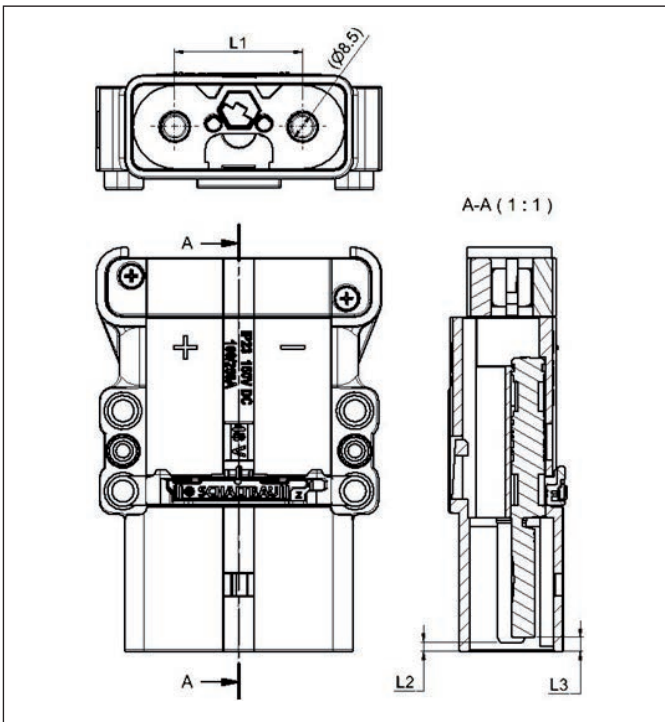
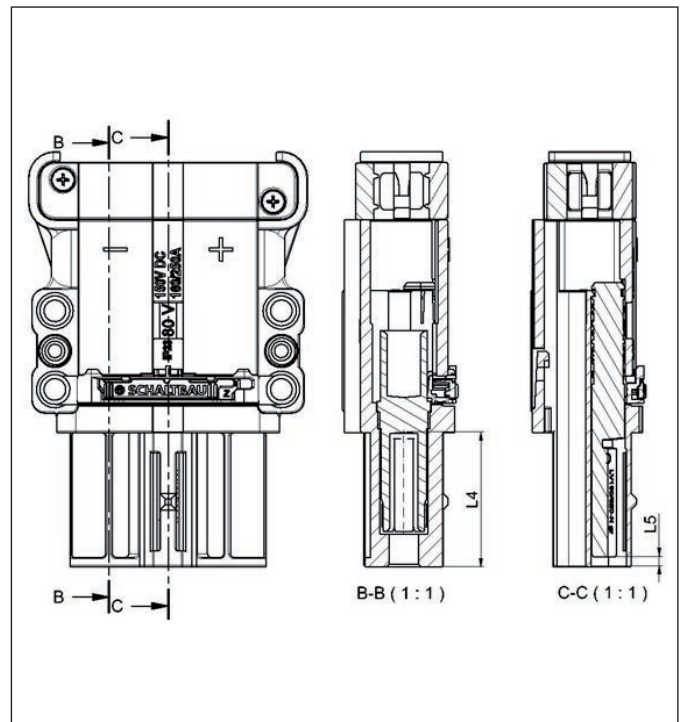

Fig. 47: Position of the pin contacts, keying plugs
Fig. 48: Position of the socket contacts, keying plugs
- ▶ Does the position of the pin and socket contacts in relation to the housing differ from the chart (refer to **Fig. 47** and **Fig. 48**)?